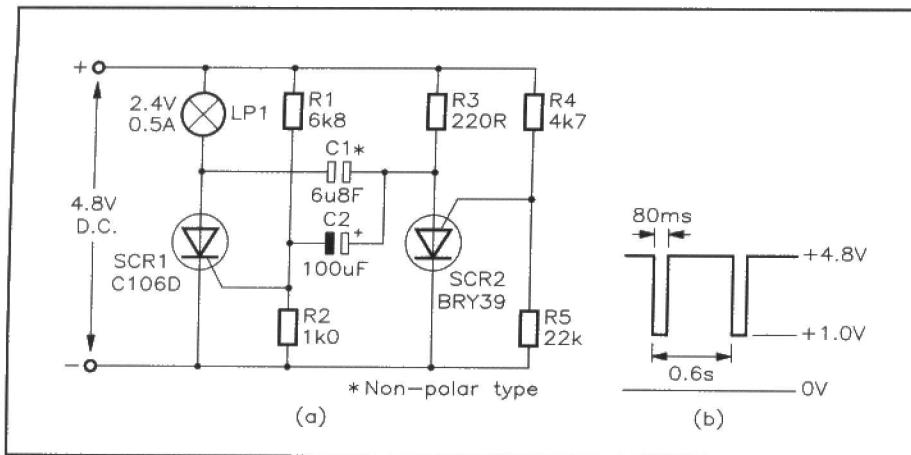

Figure 3: (a) A low voltage DC flasher circuit; (b) waveform at SCR1 anode.
A flasher circuit can be made up using only a few components and operating from a low voltage DC supply. The circuit is shown in Figure 3(a) and uses a conventional C106 SCR and a complementary SCR. The latter differs from the former in the following way.
**Comments:** Substitution of a BRY39 used as described above has caused no problems. Departures from the original circuit involve reducing the values of R4 & R5 by a factor of 10:1 and using a smaller value for the non-polarised capacitor C1. A 25 $\mu$ F type was not available so a 6.8 $\mu$ F, which was the largest in stock, was used instead. Initially a 10 $\Omega$  resistor was employed for the 1A load, just to check the circuit out, and since a CRO, connected to SCR1 anode, indicated that all was well, a hunt for a suitable lamp was made. This turned up, and a spare 2.4V, 0.5A torch bulb was used. When connected into the circuit and the power switched on, the result was impressive – short, sharp flashes, rather like an aircraft beacon in frequency and apparent intensity. As the waveform of Figure 3(b) shows, pulses occur every 0.6s and last for 80ms, corresponding to a frequency of 1.67Hz. Each negative-going pulse at the SCR1 anode has a peak amplitude of 3.8V